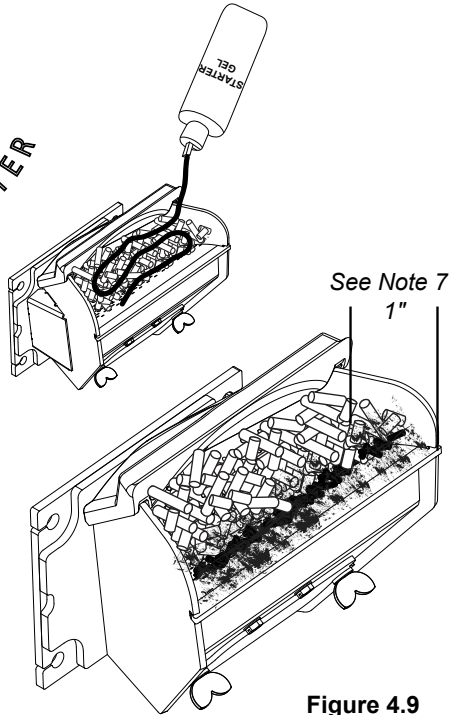

Figure 4.9
5. **Setting the feed adjuster # for maximum burn:** *With the unit burning in "AUTO", turn to "Stove Mode" and put the fan on "H". Set the Temperature Dial to #7. Allow the unit to burn for about 30 minutes and check ash on front of burn pot. Figure 4.9. If the ash line is larger than 1", turn the feed adjuster from #4 to #5. Allow another 30 minutes of burn time and check again. If, at #6 setting, a 1" or less ash bed is not obtainable, it is not a problem. The 1" ash bed is only at maximum burn rate and during normal operation, the ash bed will be larger.*